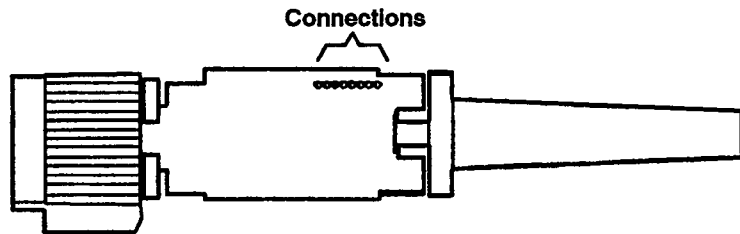

Figure 2: Flexible Circuit Board Connections on the Main Board
- Step 4:** Use a desoldering tool to remove the solder from the flexible circuit board connections on the Main circuit board. Refer to Figure 2 for location of the eight connections.